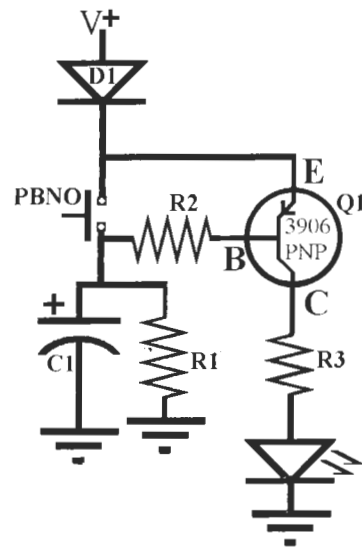
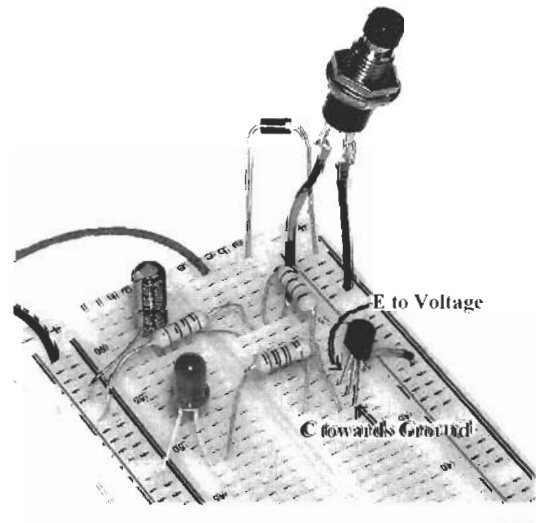

Figure L10-6
Figure L10-7
Note the similarity between this schematic in Figure L10-6 and what the schematic was for the NPN transistor. Also, notice that the transistor in Figure L10-7 is physically reversed compared to the NPN transistor in the previous lesson.
**Table L10-1** Parts list for Figure L10-6